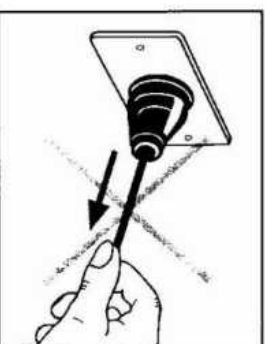

Fig. 2
- Do not tug at the lead or at the appliance to pull the plug out from the socket (Fig. 2)